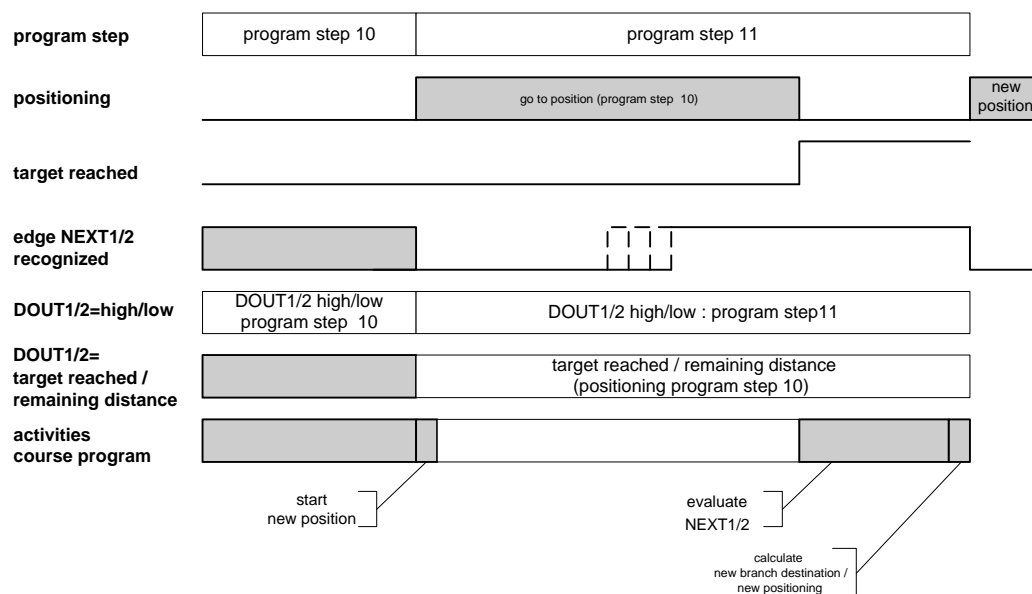

Figure 19: Position branch time diagram
In Figure 19 it is assumed that a positioning run will be started in program step 10. When the positioning run is started (10), the course program switches to the next line, program step 11.